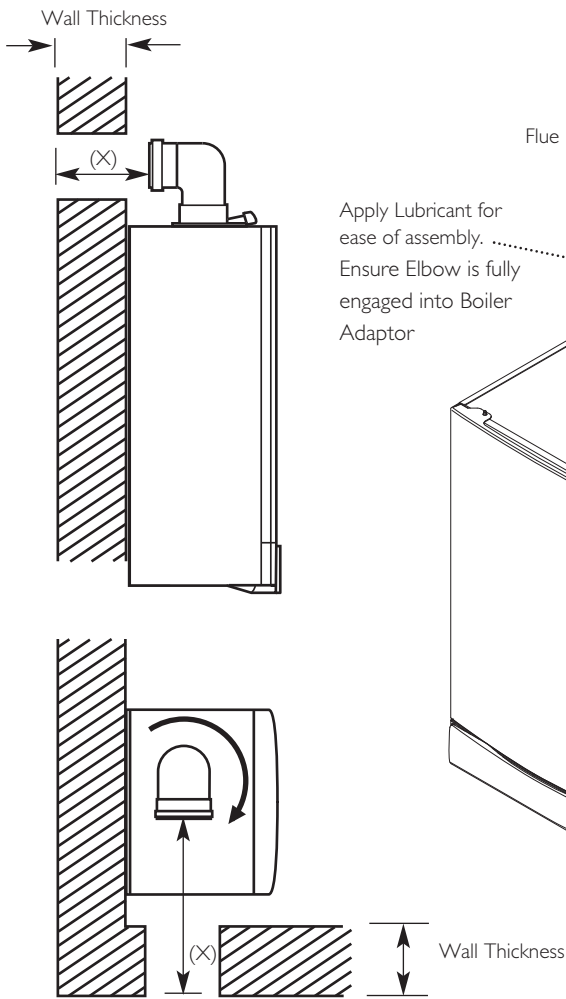

Fig. 32
3. Measure the distance from the outside wall face to the elbow. This dimension will be known as 'X' (Fig. 32).